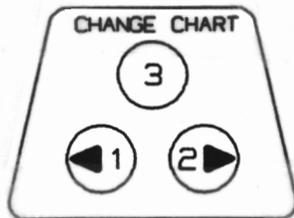

Figure 6: Push Buttons
When the unit is first powered on, the pen arm(s) will move off of the chart and then move back onto the chart briefly stopping at the outer most temperature graduation ring of the chart paper. If the pen does not stop exactly at this location on the chart, it can be adjusted or “calibrated” by using the left (#1) or right (#2) arrow buttons (refer to Figure 6). When the pen moves back onto the chart and briefly stops, you will have approximately five seconds in which to adjust the pen’s position using the left and right arrow buttons of Figure 6.
The pen arm will then move to the first control point position and the green LED will turn off. The pen will remain at this position for a period of approximately five seconds during which time high-alarm point can be adjusted using the left arrow (#1) or the right arrow (#2) push buttons. Refer to Figure 6 for a diagram of the pushbuttons. When the time has expired for adjusting the high alarm point, the green LED will turn back on and move to the low alarm point. The pen will remain at this position for a period of approximately five seconds during which time the low alarm point can be adjusted using the left arrow (#1) or the right arrow (#2) push buttons. The LED will turn solid green and the pen arm will move to indicate the probe's temperature and the unit will begin recording.
To select from the ranges available, press and hold the “change chart” button (#3) while in normal operating mode, until the pen arm begins to move off the chart. Once the pen has moved off the chart, press and hold the left arrow (#1) or right arrow (#2) button for approximately five (5) seconds and then release the button. Refer to Figure 6.